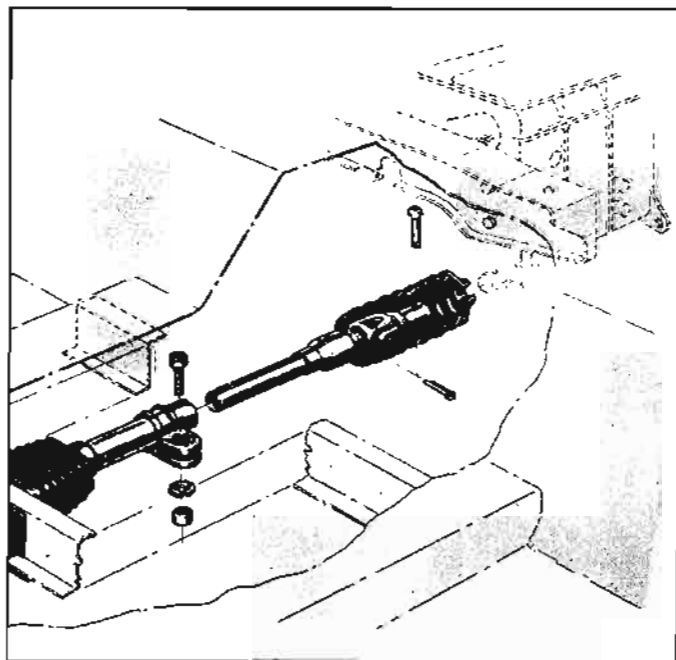

Fig. 6A-18—Shift Rod Coupling (Standard Transmission)
- Reinstall engine front mounting bracket to transmission with same amount of shims as removed. Install retaining bolts ("D" fig. 6A-17) and torque 20 to 30 ft. lbs.
- On vehicles equipped with Standard Transmission replace ball stud and clutch lever control cable cross-shaft as outlined under "Clutch Lever Control Cable Cross-Shaft" in Section 6B. Adjust "Clutch Linkage," as outlined in Section 6B. Install shift rod coupling as shown in Figure 6A-18.